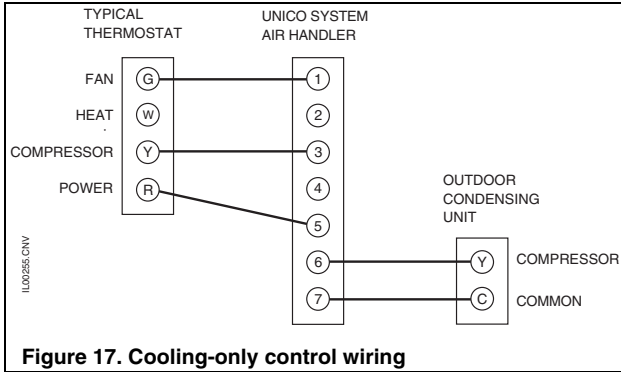

Figure 17. Cooling-only control wiring
3. Next, connect the control wiring per figures 17 through 19. For units with electric duct heaters, refer to *Bulletin 30-34*. Match thermostat anticipator settings for combined amperage load of all components, including electric heater contactors, to prevent damage to thermostat.